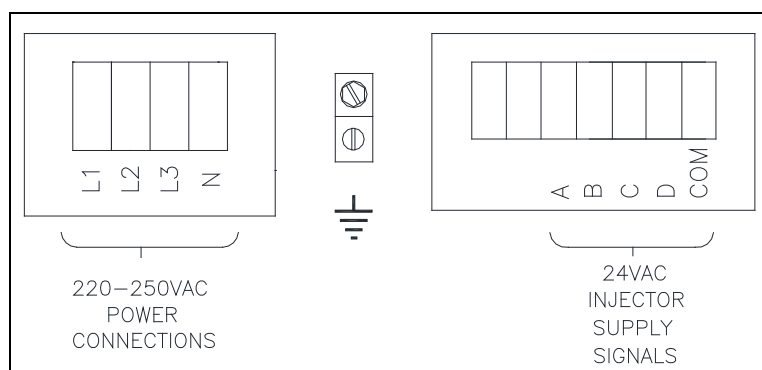

Figure 1-5: Electrical Connections and Chemical Supply Signals
1.7.1.2 Remove the rear panel near the upper left corner of the washer and locate the power terminal block near the back of the control compartment. Connections are as shown in Figure 1-5.
The washer control may be programmed to send six 24V output signals for a chemical injection system of up to four chemical sources. There are convenient electrical connection points for the injection pumps in the rear of the machine, as shown in Figure 1-5. The four independent pumps can be controlled through the signals A, B, C and D. The COM shown in Figure 1-5 is the common or return for these injection signals. For the injection sources, program codes 0 through 6 and their respective terminal block connections and combinations are as shown in Table 3.